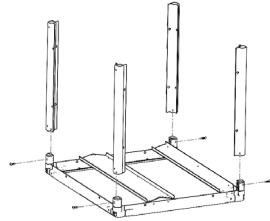

Fig. 3 Install frame sections into frame corners. (3-ton model shown.)
1. Slide qty 4 frame sections onto the black frame corners so that the screw holes align with the threaded holes in the frame corners. Install qty 1 of supplied #10-32 screws into each frame section to secure the frame to the filter rack. See Fig. 3.